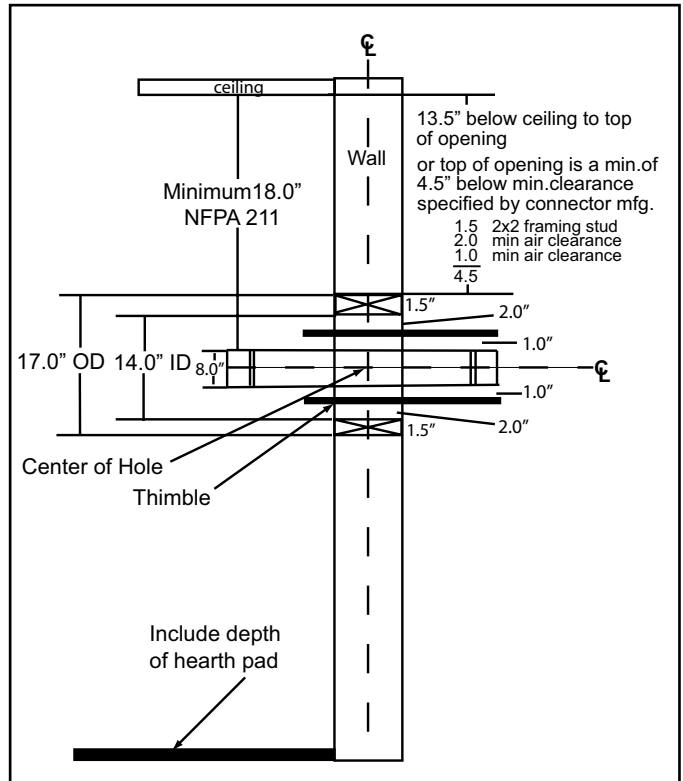

Figure 17.1
- Top of wall opening is a minimum of 13-1/2 inches (343mm) from ceiling or 4-1/2 inches (114mm) below minimum clearance specified by chimney connector manufacturer. NFPA 211 minimum vertical clearance of 18 inches (457mm) from chimney connector and ceiling or minimum recommended by chimney connector manufacturer. **Figure 17.1.**
1. Open inside wall at proper height for the chimney connector to enter the masonry chimney. **Figure 17.1**
3. Construct a 17 inch x 17 inch (432mm x 432mm) outside dimension frame from 2 x 2 framing lumber to fit into wall opening. Inside opening of frame should be no less than 14 inch x 14 inch (356mm x 356mm). **Figure 17.1.**